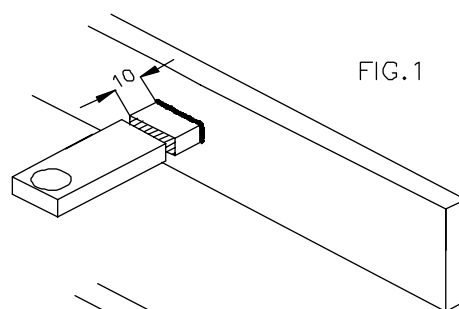

FIG.1
-TAGLIARE LA STAFFA ALLA QUOTA INDICATA IN FIG.1
- COUPER L'ETRIER A LA COTE INDIQUEE SUR LA FIG.1
-CUT THE BRACKET AT THE HEIGHT INDICATED IN FIG. 1
- DEN BÜGEL AN DEM IN ABB. 1 ANGEGBENEN MASS ABTRENNEN
-QUITAR EL ESTIRIBO A LA CUOTA INDICADA EN LA FIG.1
-CORTAR O ESTIRIBO NA COTA INDICADA NA FIG.1
-VERSNIJ DE BEUGEL TER HOOGTE VAN DE MARKERING AANGEGEVEN IN FIG.1